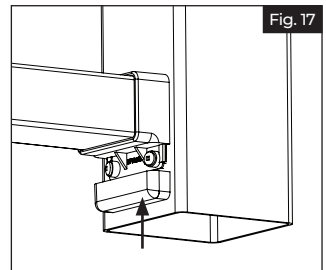

Fig. 17
- d. Slide bottom bracket covers snugly onto bottom brackets (Fig 17).